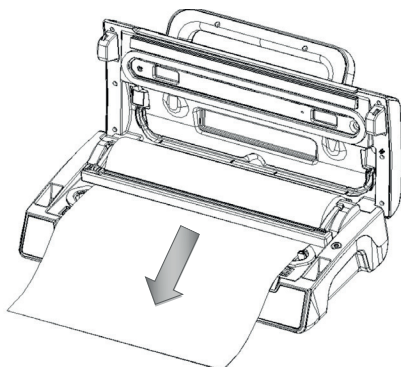

Fig. 3
3. Pull out the bag to the suitable length you want. (Fig.3)